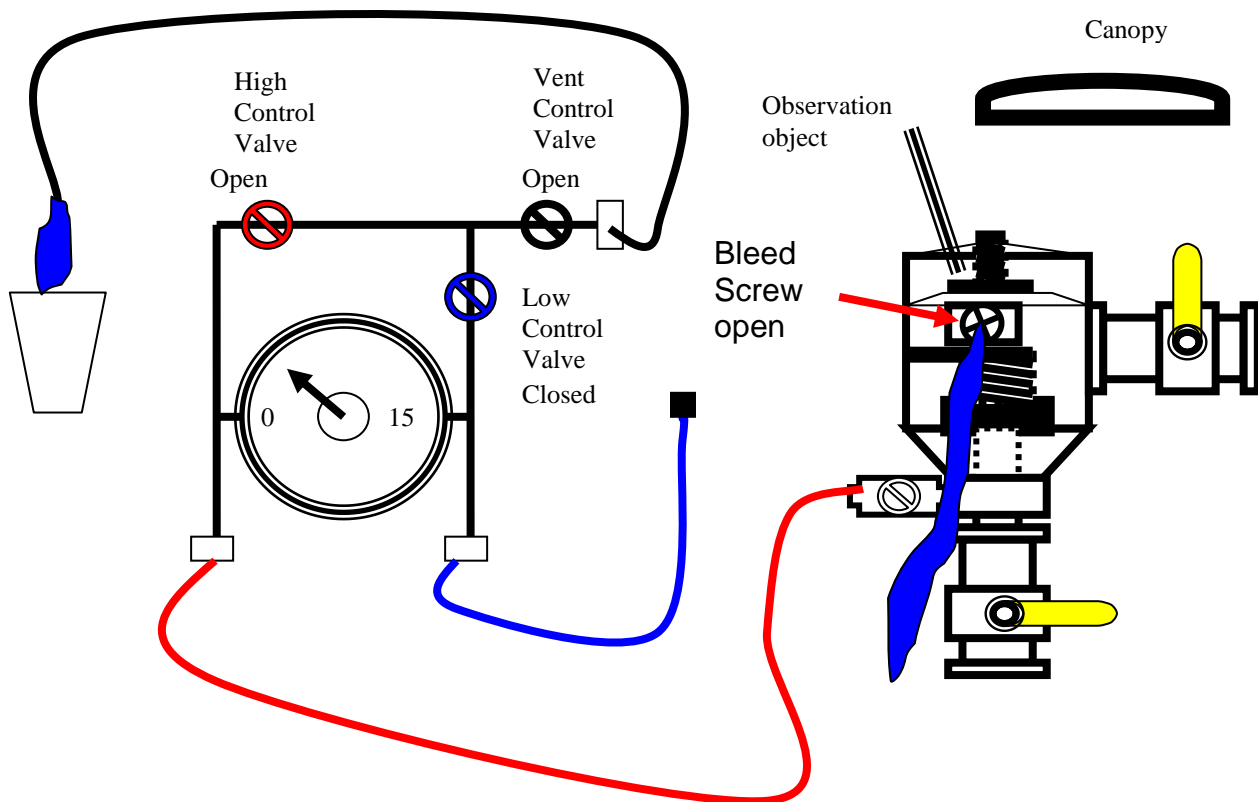

Figure 3
**Step 3: Determine if the air inlet valve opens at least 1 PSID above atmospheric pressure. (Figure 3)**